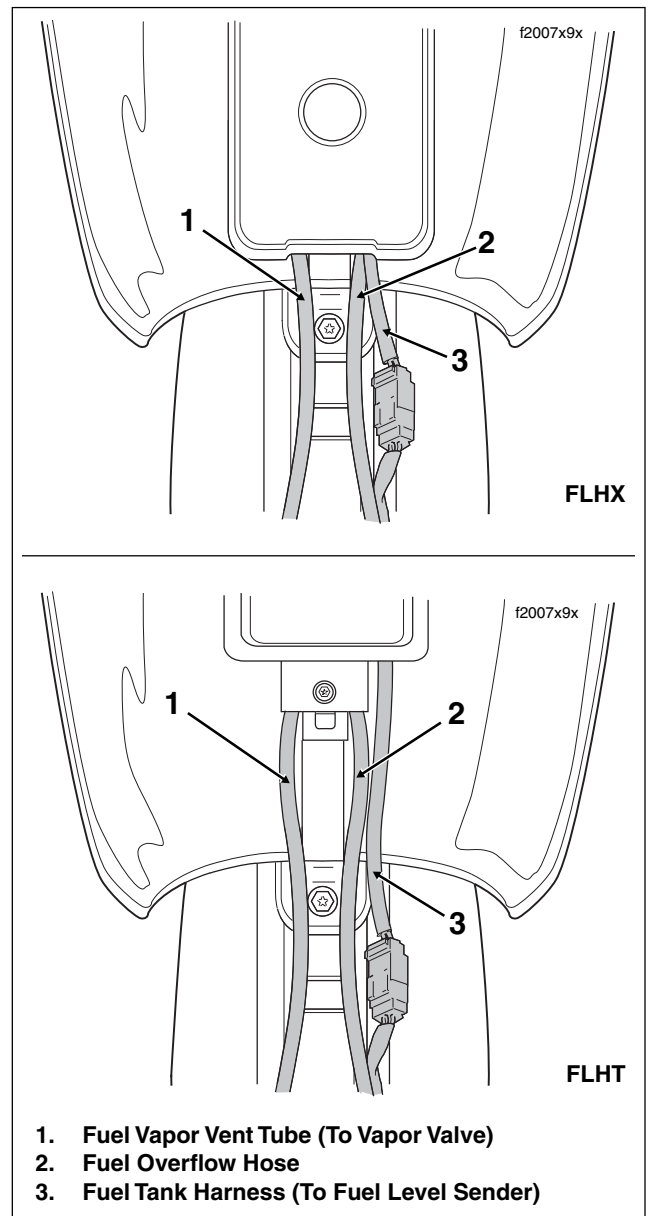

Figure 8-126. Console Cable/Hose Routing (FLHX, FLHT)
6. Remove filler cap. Exercising caution to avoid pinching harness, overflow hose and vent tube, position console on canopy as shown in Figure 8-126. Reinstall filler cap.